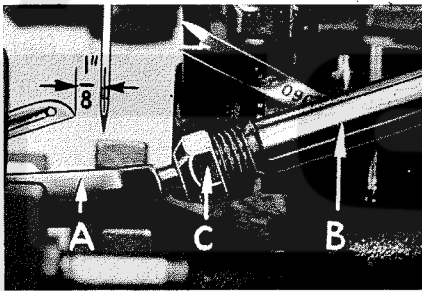

Fig. 5
Insert the 503 stitch lower looper (A, Fig. 5) into bar (B). With lower looper at left end of its stroke set looper point $1/8$ inch from center of needle (Fig. 5) using looper gauge No. 21225- $1/8$. Do not have lower looper deflecting needle. Do not lock looper nut (C) because the looper point will have to be set to the needle scarf after the rear needle guard has been assembled and positioned. (See paragraph under "Final Setting of Lower Looper.")
Now finish lower looper adjustment. As lower looper moves to the right its point should be set into the needle scarf (A, Fig. 7) until the needle springs forward from the rear needle guard surface another $.002$ to $.004$ inch. This setting is obtained by rocking the looper forward or backward around its shank. Recheck the $1/8$ inch looper gauge setting and tighten nut (C, Fig. 5).